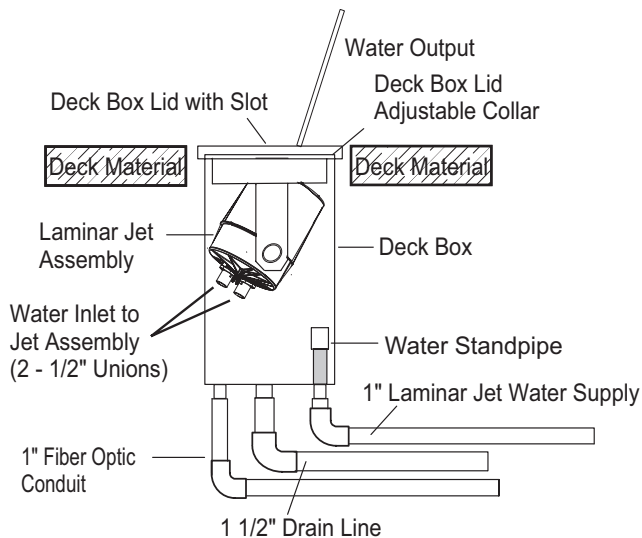

Figure 3. Laminar Jet Deck Box Schematic
**NOTE:** Prior to installing the Jandy Laminar Jet Deck Box, locate the jet opening (slot) in the Deck Box cover. Make sure that this opening is pointing towards the desired target location in the pool. Use the water stand pipe as a reference (see Figure 3). Determining the orientation of the Deck Box will also establish where to place the plumbing and fiber optic conduit.
**2.1.b** Lift up the Deck Box lid and adjustable deck lid collar from the Deck Box (see Figure 4). Notice that the Laminar Jet assembly is connected to the Deck Box lid as one unit. Disconnect the two (2)  $\frac{1}{2}$ " unions located on the bottom of the Laminar Jet assembly (see Figure 3). Set the lid/jet assembly aside.